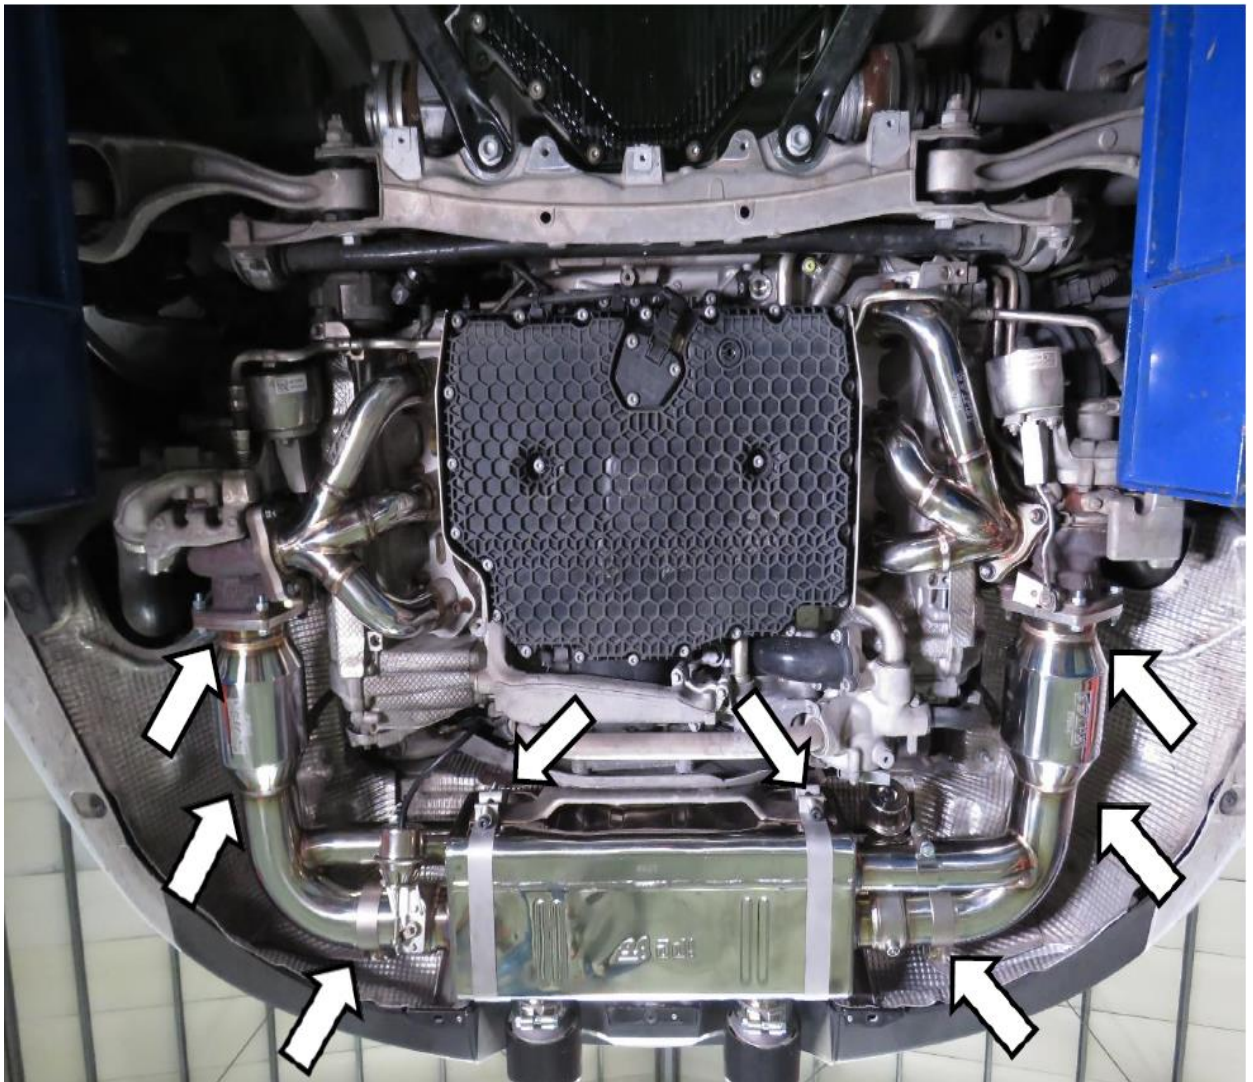

figure 7
2. Install the barrel body to the positioning. Note that the barrel positioning position affects the center position of the tail tube (Figure 7).